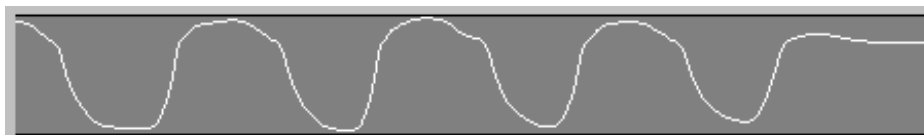

Figure 23 – Optimum Dynamic Range
8. Once the finger has been calibrated, it should look as in Fig 23 when you repeatedly flex and unflex your finger.